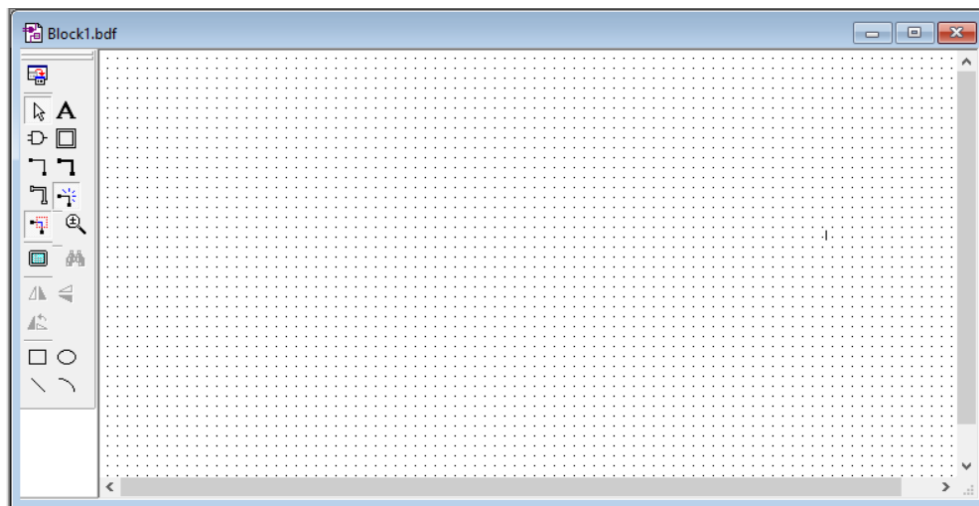

Figure 8.18: diagram window.
2. The window in Figure 8.18 will appear, to enter components of our design double click anywhere on the schematic window or select the symbol tool (The little and gate).